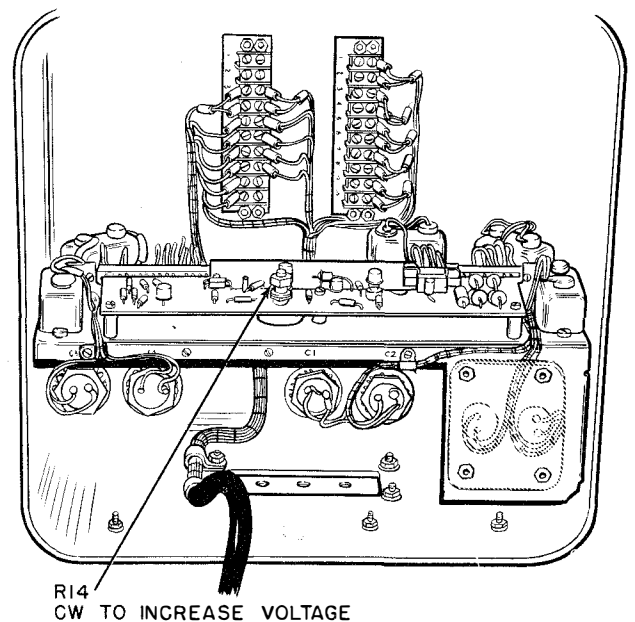

Figure 6-1. Bias Adjustment
(1) CONTROL SETTINGS.
(2) TEST SET-UP.
(3) TUNING INSTRUCTIONS.
- (a) Locate bias adjust potentiometer R14, see figure 6-1.